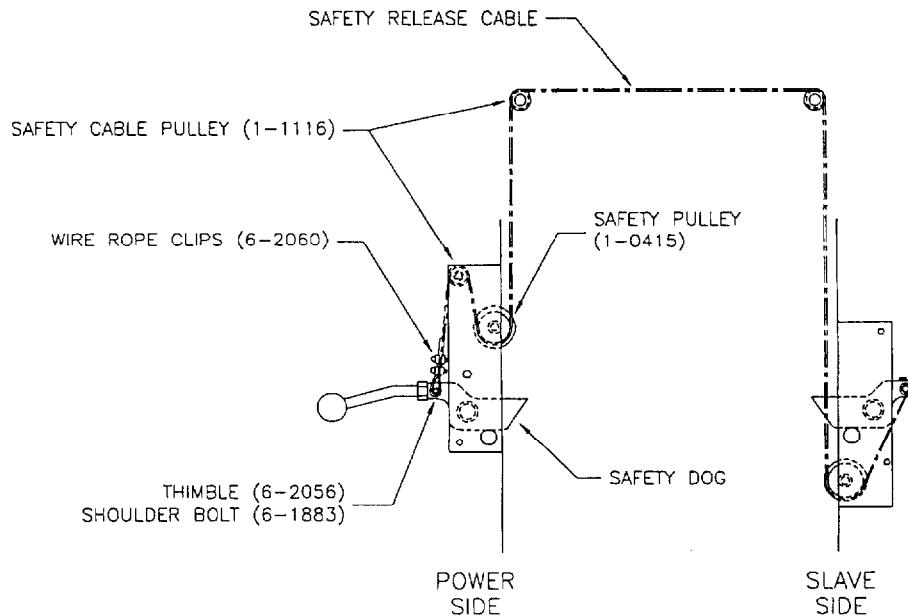

Figure 10 – Safety Release Routing and Adjustment
2. Refer to **Figure 10** for safety release cable routing. The end of the cable that has a collar attaches to the slave side tower. The free end is fixed to the power side tower using two (2) wire rope clips.
7. Guide the cable up under the large pulley and then over the small pulley towards the safety dog as shown in **Figure 10**. Wrap the cable around the thimble (attached to the safety dog with a 5/16" x 1/2" lg. shoulder bolt) and then clamp it using two (2) wire rope clips. Do not tighten fully at this stage.